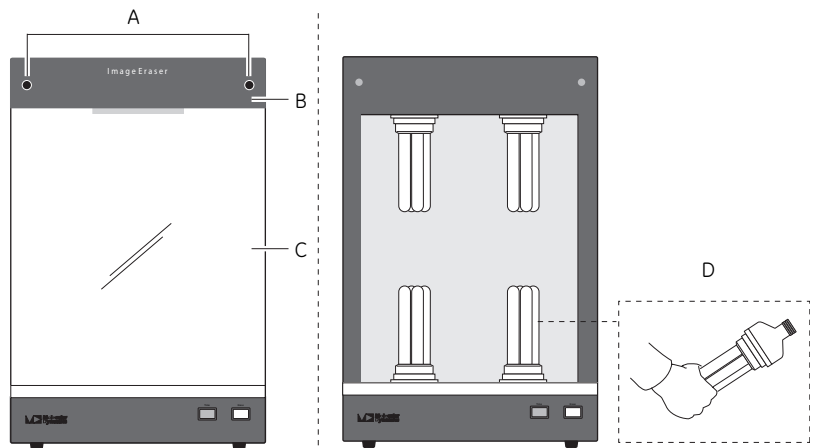

Figure 5-4. Replace bulbs in the Image eraser.
- 2 Unscrew the two thumbscrews (Fig 5-4 A) that hold the clip support (Fig 5-4 B) and diffuser screen (Fig 5-4 C) in position.
- 4 Unscrew the bulb and fixture from each receptacle (Fig 5-4 D).